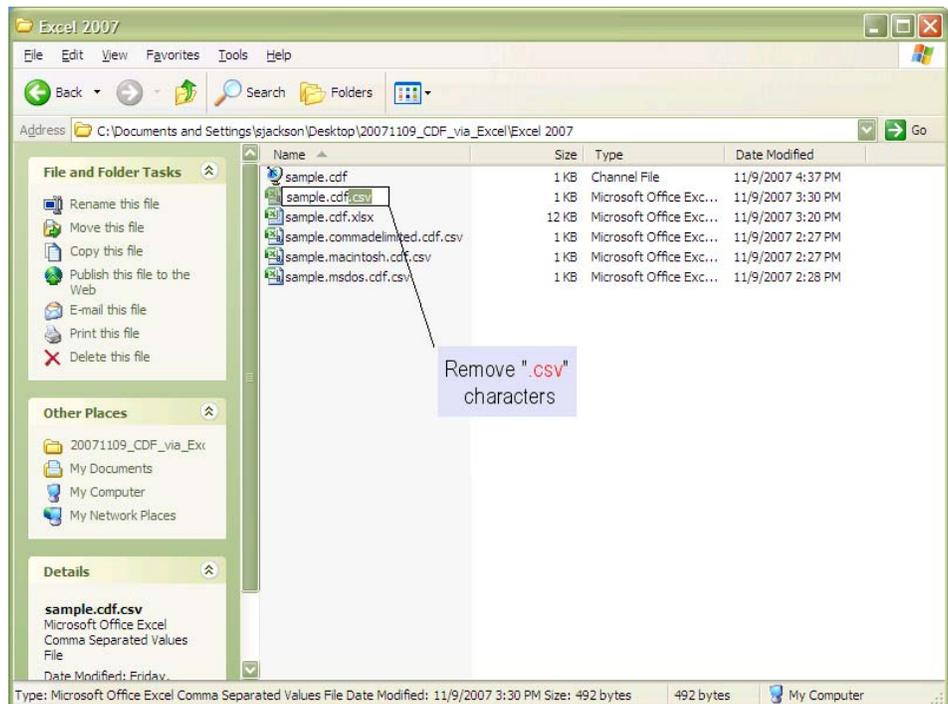

Figure 2.11 Removing “.csv” file extension, leaving file name as “*.cdf”
- Remove the extra “.csv” file extension, leaving file name as “*.cdf”, as shown in Figure 2.11.
1. Open the CDF file in Notepad. Note that all the information present in the Excel spreadsheet shown in Figure 2.11 is visible in Notepad.